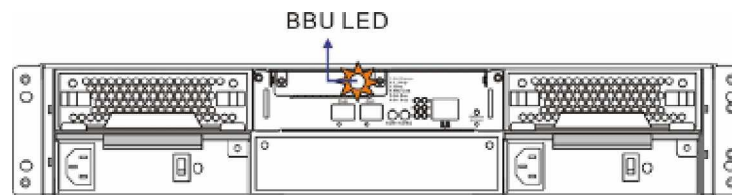

Figure 2-12: BBU LEDs
- Step 4.** The LED should start flashing to indicate that the BBU is being charged. When the BBU is fully charged, the LED will be turned off. (See *Figure 2-12*)